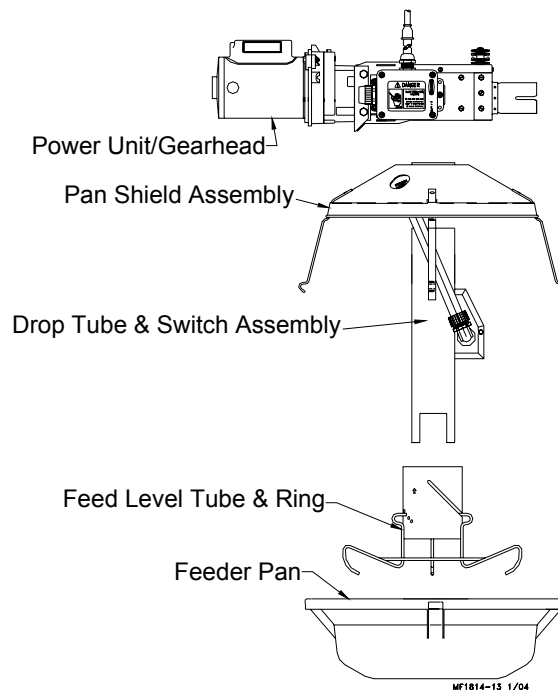

Figure 32. Drop Tube and Switch Assembly
5. Insert the Drop Tube and Switch Assembly through the Pan Shield from the bottom, **see figure 32**. The hole in the Pan Shield should be located on the same side of the Drop Tube as the Switch Cord and directly under the white box on the body assembly. Bolt the Drop Tube to the Body Assembly. The switch on the Drop Tube should be mounted opposite the Power Unit.